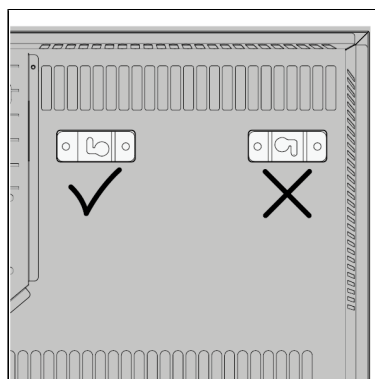

Figure 27.
11. Before installing the brackets on the Alutherm Sani Verre Wi-Fi, double check the orientation (Figure 27).